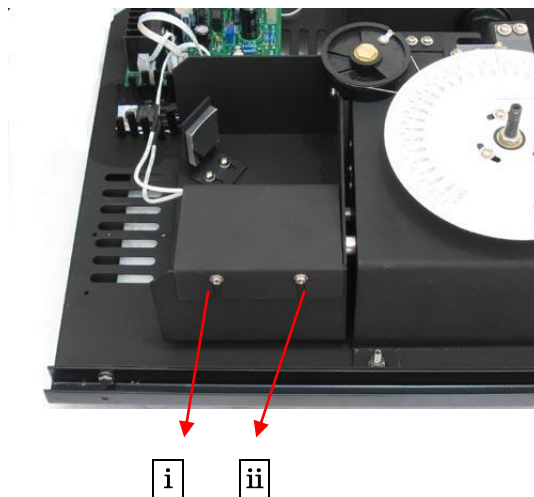

Fig.2-3
- 7) Unscrew the two screws i & ii from the **Lamp Cover** and remove the cover.(Fig.2-3)